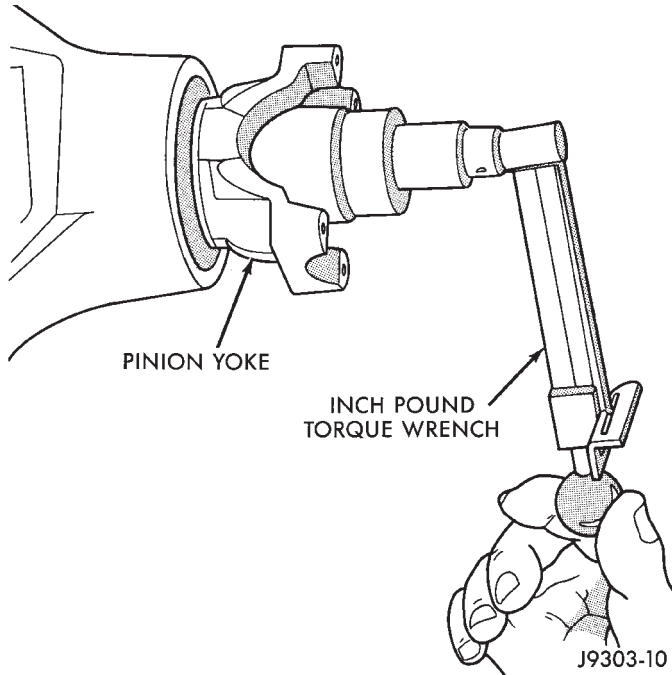

Fig. 18 Check Pinion Gear Rotation Torque
(10) Slowly tighten the nut in 6.8 N·m (5 ft. lbs.) increments until the rotating torque is achieved. Measure the rotating torque frequently to avoid over crushing the collapsible spacer (Fig. 18).
(11) Check rotating torque with a (in. lbs.) torque wrench (Fig. 18). The torque necessary to rotate the pinion gear should be: